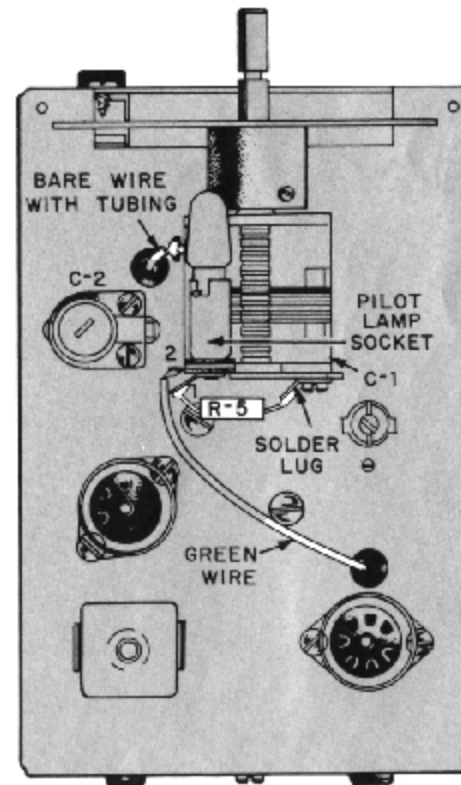

FIGURE 9
- ☑ C-2, trimmer capacitor. Bend the lugs at right angles so they fit into the holes in the chassis. Mount from the top of the chassis with two 4-40 x 3/8" screws, a lockwasher, a solder lug and two nuts. Mount the solder lug on the screw closer to TS-2. Caution: Do not overtighten these screws. See Figure 9 for a top view of the chassis and C-2.
SEE FIGURE 9.